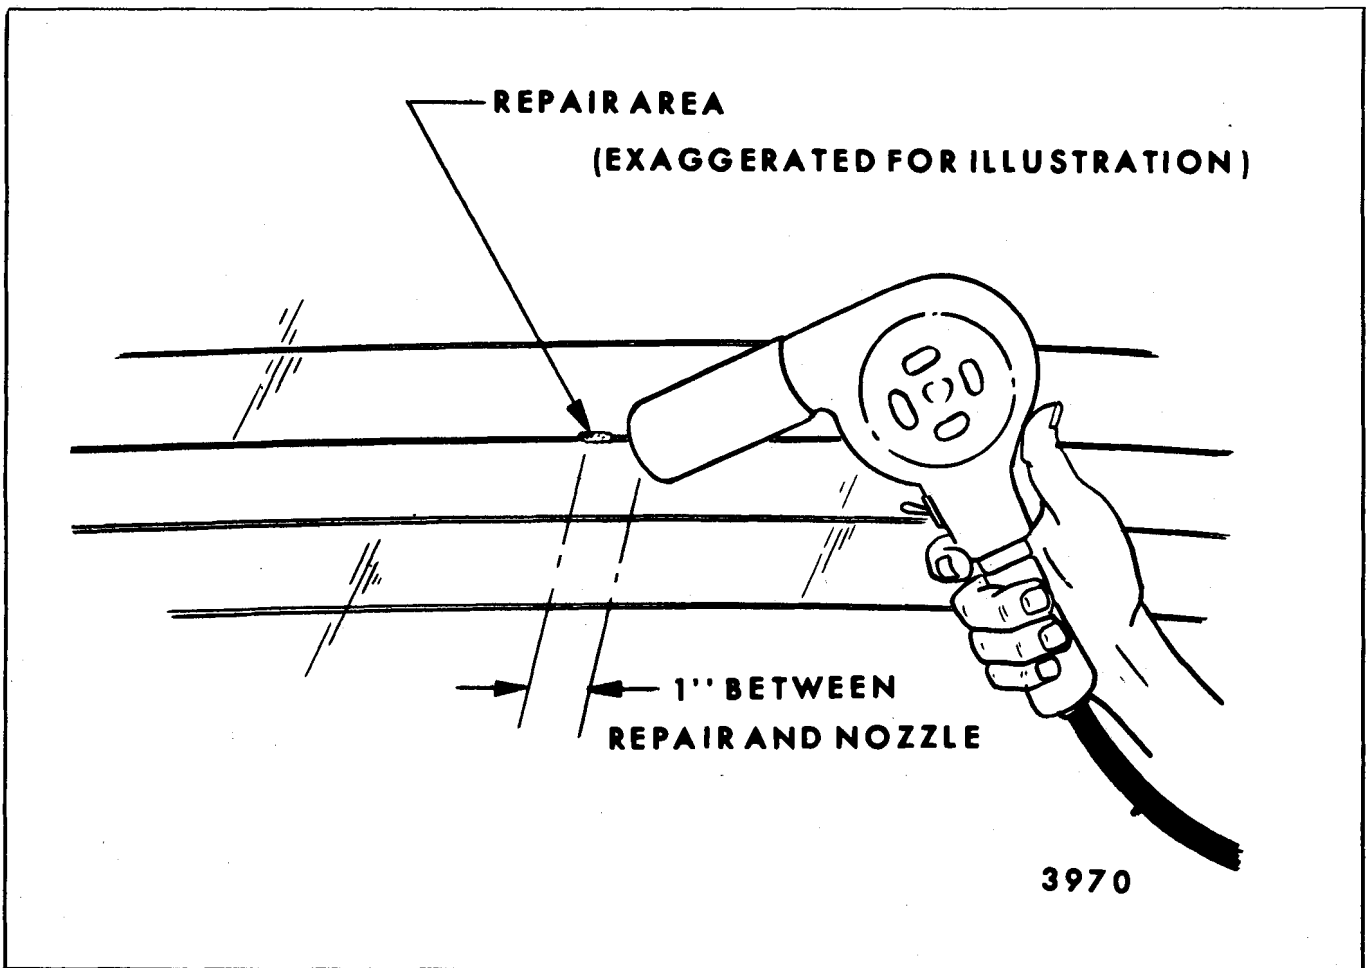

Fig. 15-68—Applying Heat to Grid Line Repair
9. Apply a constant stream of hot air directly to the repaired area with a heat gun (preferably 500 degrees F. to 700 degrees F. range) for 1 to 2 minutes. Heat gun nozzle should be held approximately 1 inch from repair (minimum of 300 degrees F. is essential for establishing conductivity) see Figure 15-68.